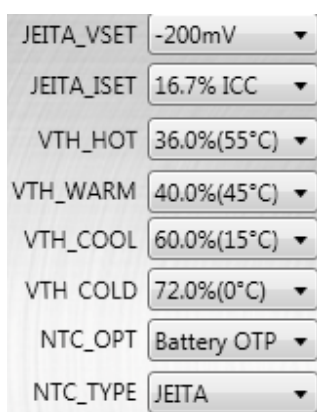

Figure 16: Setting the NTC Function
- If this function is not required during the evaluation, leave it at the default setting (see Figure 16).